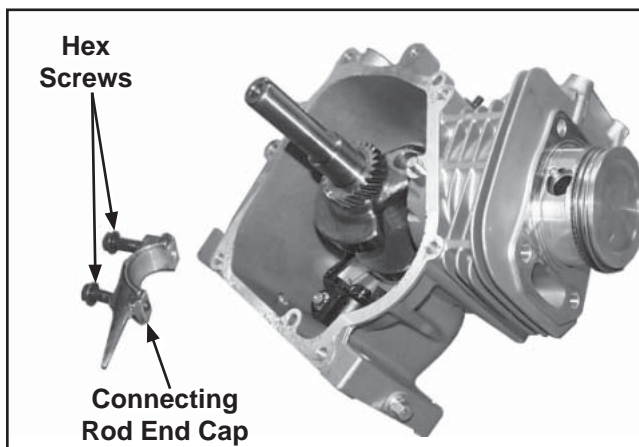

Figure 9-50. Removing Piston and Connecting Rod.
1. Remove the two screws securing the end cap to the connecting rod. Remove the end cap. Carefully guiding the connecting rod, slide the piston and connecting rod from the cylinder bore. See Figure 9-50.